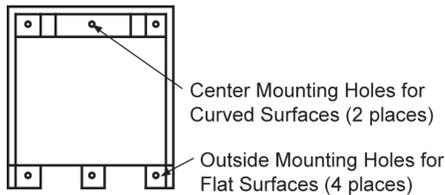

Figure 4-11. Junction Box Mounting.
2. See Figure 4-11. Hold the junction box at the previously marked mounting location. Mark the mounting holes.